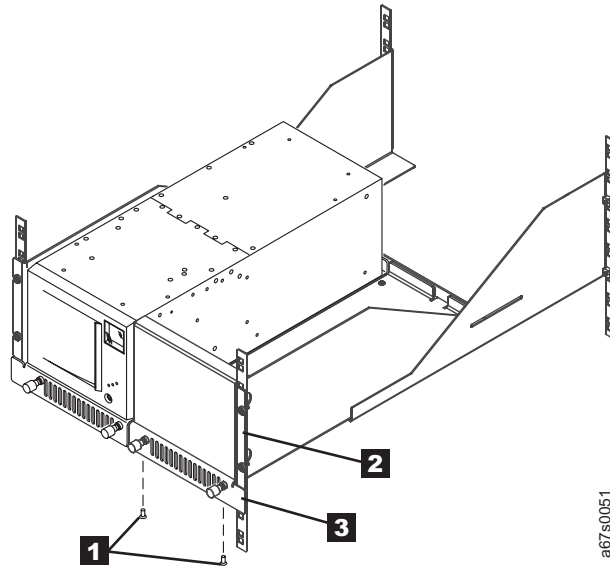

Figure 51. Removing the filler panel to install a second 3581 Tape Autoloader
1. Loosen (but do not remove) the two flat-head screws (see **1** in Figure 51 on page 122) that secure the filler panel **2** to the right sled **3**.